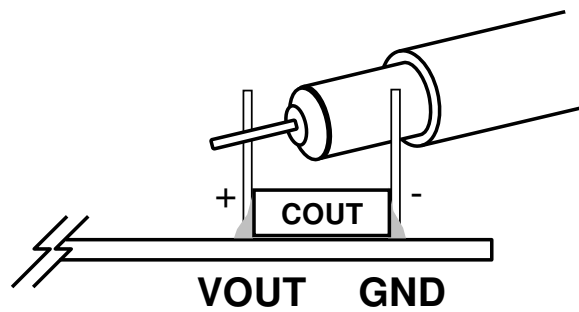

Figure 2. Measuring Output Voltage Ripple
**Note 2.** When measuring the output or input voltage ripple, do not use the long ground lead on the oscilloscope probe. See Figure 2 for the proper scope probe technique. Short, stiff leads need to be soldered to the (+) and (-) terminals of an output capacitor. The probe's ground ring needs to touch the (-) lead and the probe tip needs to touch the (+) lead.